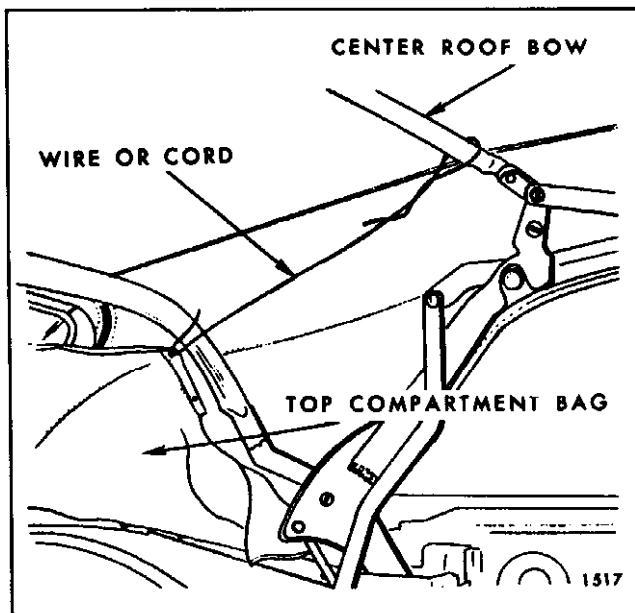

Fig. 13-5 - Top Compartment Bag Tied to Center Bow
17. Detach folding top compartment bag from rear seat back panel, thus exposing rear quarter and rear trim stick attaching bolts. Forward end of top compartment bag may be tied or wired to center roof bow to provide ready access to attaching bolts (Fig. 13-5).